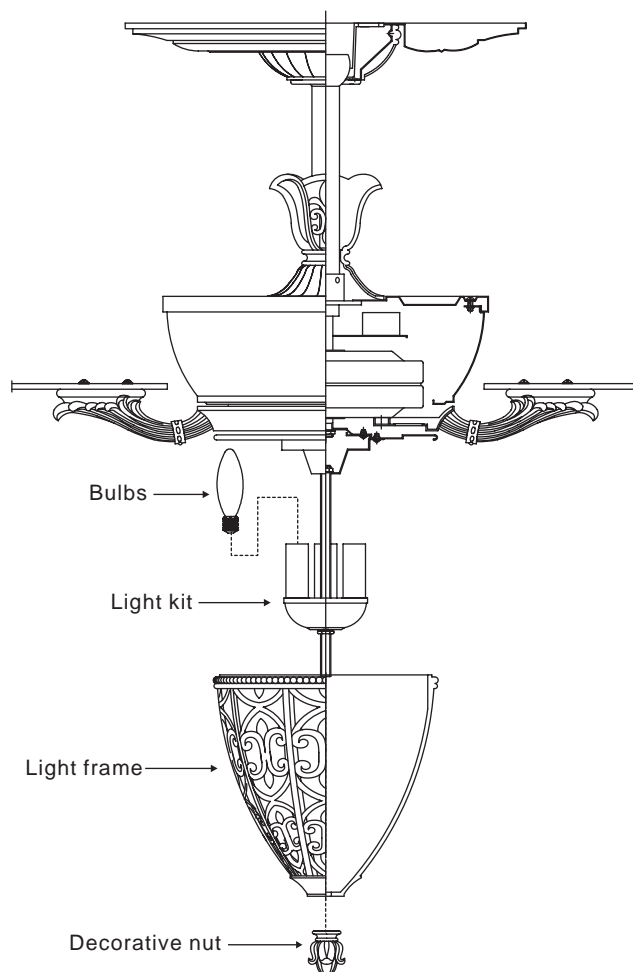

Figure 17
1. Install 3 x 40w candelabra bulbs (not included). (Fig. 17)
2. Place the light frame to the light kit with the decorative nut provided. **DO NOT OVER TIGHTEN.** (Fig. 17)